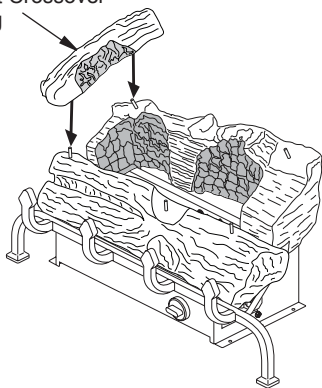

Figure 19 - Installing Left Crossover Log
- Place the left crossover log as shown in Figure 19. The bottom of the log is marked with a "L" for left. Match round peg on left side of top of rear log with round hole in bottom of left crossover. Match square peg on left side of top of front log with square hole in bottom of left crossover log.